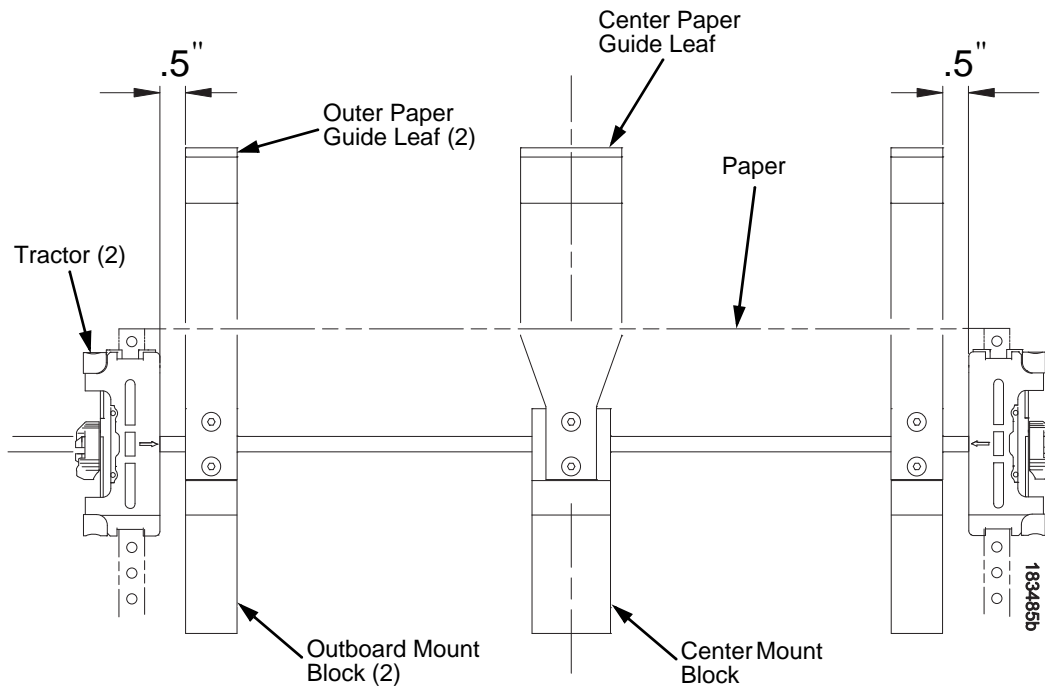

Figure 2. Adjusting Paper Guide Leaves
4. Slide the left outboard mount block so that the left outer paper guide leaf is .5 inches from the left tractor. (See Figure 2).